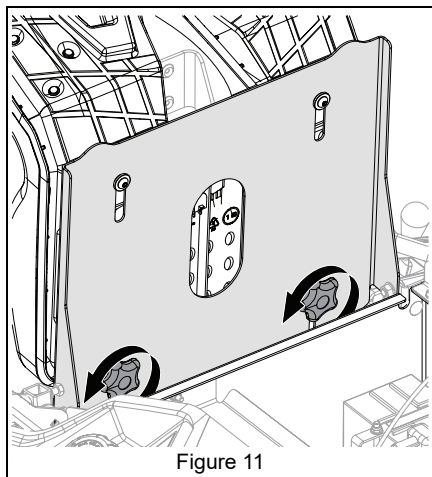

Figure 11
2. Loosen the two wing knobs located toward the front of the seat plate. See Figure 11.